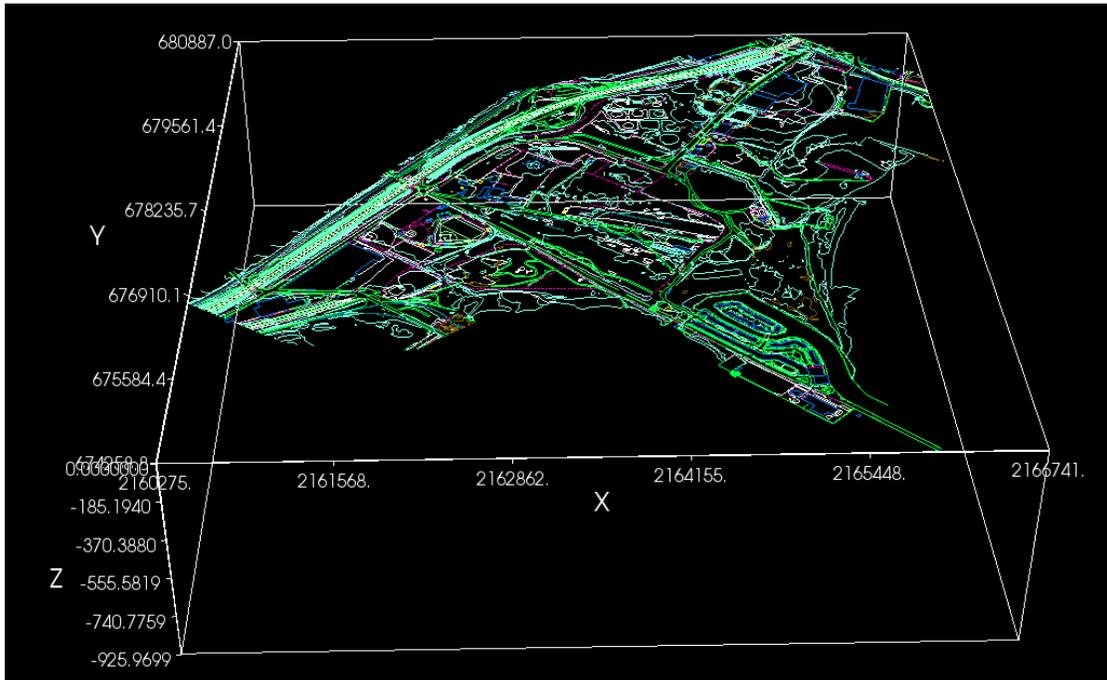

Figure 2.7. A DXF map and an *Axis Box* showing the XYZ coordinates.
3. Once the file is imported, a Coordinate Transformation dialog box appears (Figure 1.4), where you can simply click OK to accept the default values or enter the desired parameters to sequentially translate, zoom (scale), and rotate the graphical objects contained in the DXF file. As CAD applications often save DXF files in various coordinate systems, chances are that if the parameters are not correct, the DXF file may be displayed in incorrect size or even completely outside of the Viewport. If this happens, you can import the DXF file to a new instant of Seer3D, and then add an *Axes Box* (see Section 4.4 for details) to display the coordinates of the DXF file. Figure 2.7 illustrates an example of a DXF map and an *Axes Box*. Once the coordinates of the DXF file is known, you can use the knowledge to find out the correct coordinate transformation parameters.